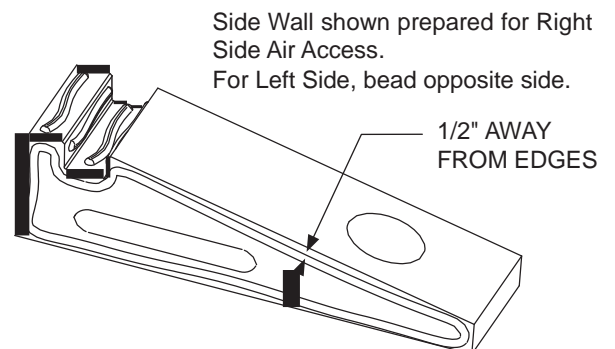

Figure 37 - Preparing Side and Rear Wall Pieces
5) Before installing side walls, confirm placement of outside air kit (if required). This can be installed either side depending on which side is accessible to outside combustion air (all diagrams in this manual show the combustion air inlet hole on the right side). Prepare side wall and rear wall mating surfaces with the prepared mortar and begin assembly as shown in Figure 37.